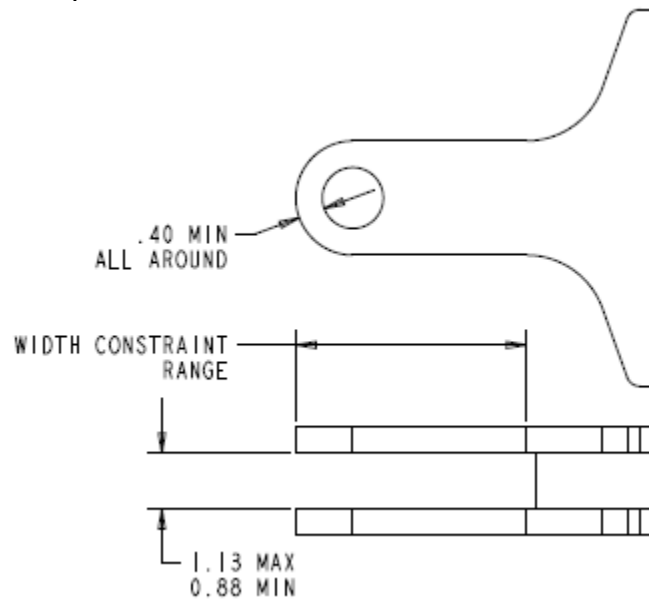

Figure 2. Push Rod Condemning Limits
- 7.4.1 Throat opening dimension must fall within 1.13" – .88" throughout the width constraint range, see Figure 2. If throat opening exceeds 1.13" or is smaller than .88" inside the width constraint range, the part must be replaced.
- 7.4.2 Wall thickness around hole must exceed .40" at any point, see Figure 2. If the wall thickness around the hole is less than .40" at any point, the part must be replaced.